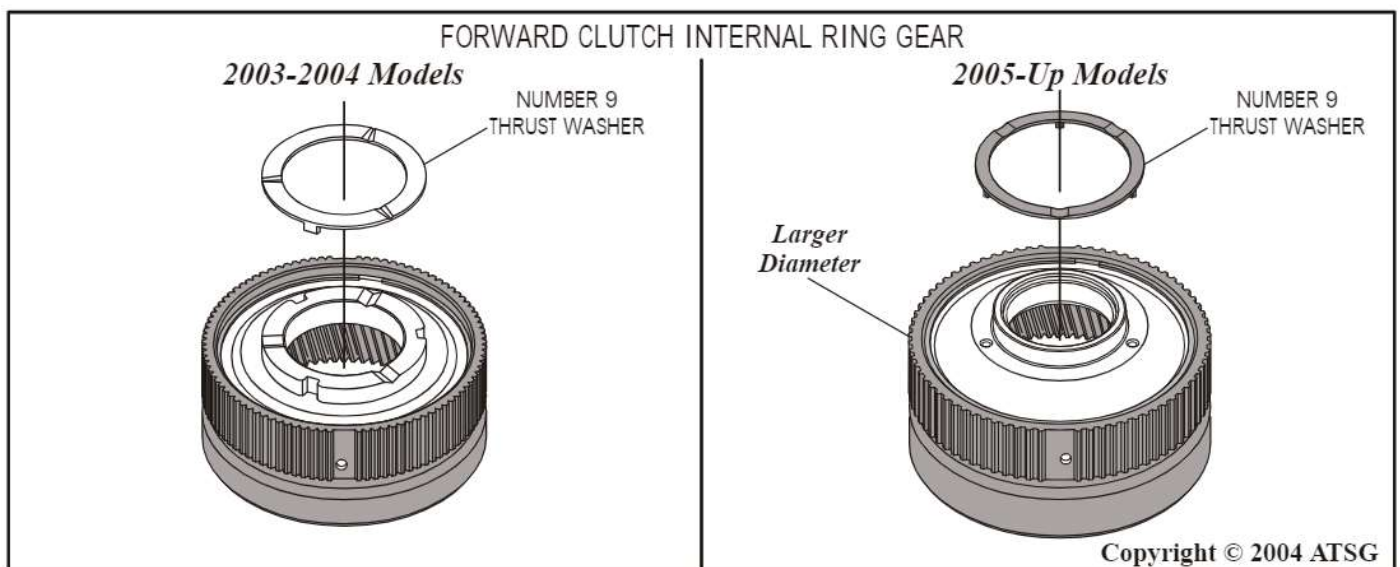

Figure 121
4. Forward clutch internal ring gear increases in diameter, and the tooth count changes to accommodate the new friction plates, as shown in Figure 121.
5. The number 9 thrust washer changes to accommodate the new ring gear, as shown in Figure 121.